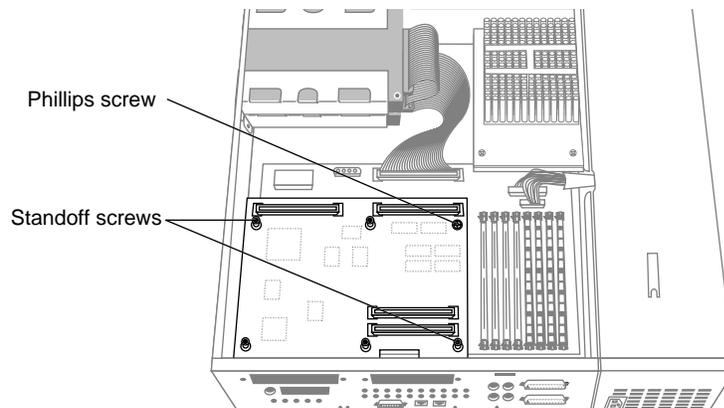

Figure 1-25 Inserting the Screws on the Graphics Board
- Using the open-ended wrench, insert and tighten the two standoff screws that you removed earlier, in the locations shown in Figure 1-25. As you tighten the screws, alternate among them so that the board is fastened evenly.
- Using the Phillips screwdriver, insert and tighten the Phillips screw in the location shown in Figure 1-25.